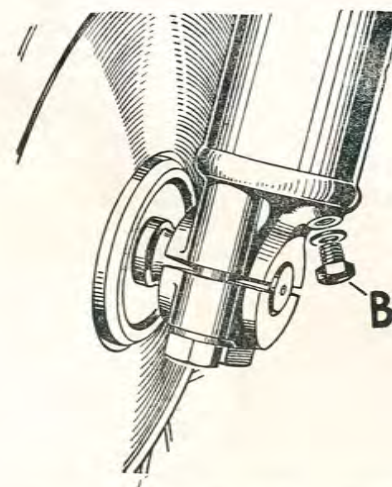
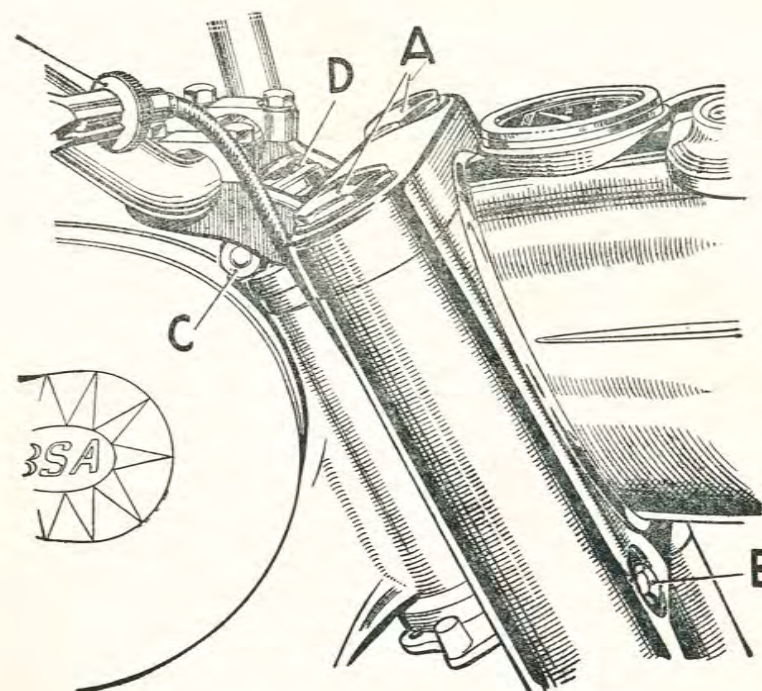

Fig. 19. Front Fork Drain Plug.
Fig. 20. Front Fork and Steering Head.
Remove the plug (A) Fig. 20, and the drain plug in the lower end of the fork sliding member as shown at (B) in Fig. 19. Allow all the oil to drain out, then apply the front brake and depress the forks a few times to drive out, any oil remaining in the system.
Slacken the clamping nuts (C) and (E) Fig. 20, then tighten down the cap nut (D) until the adjustment is correct. Hold the handlebar lightly and move them round slowly. The steering must be free, and the forks must rotate smoothly. If the movement is "lumpy" it is a sign that the adjustment is too tight, or that the ballraces are damaged. When the adjustment is correct, tighten the clamping nuts (C) and (E). The latter clamps the fork shafts and must be quite tight.